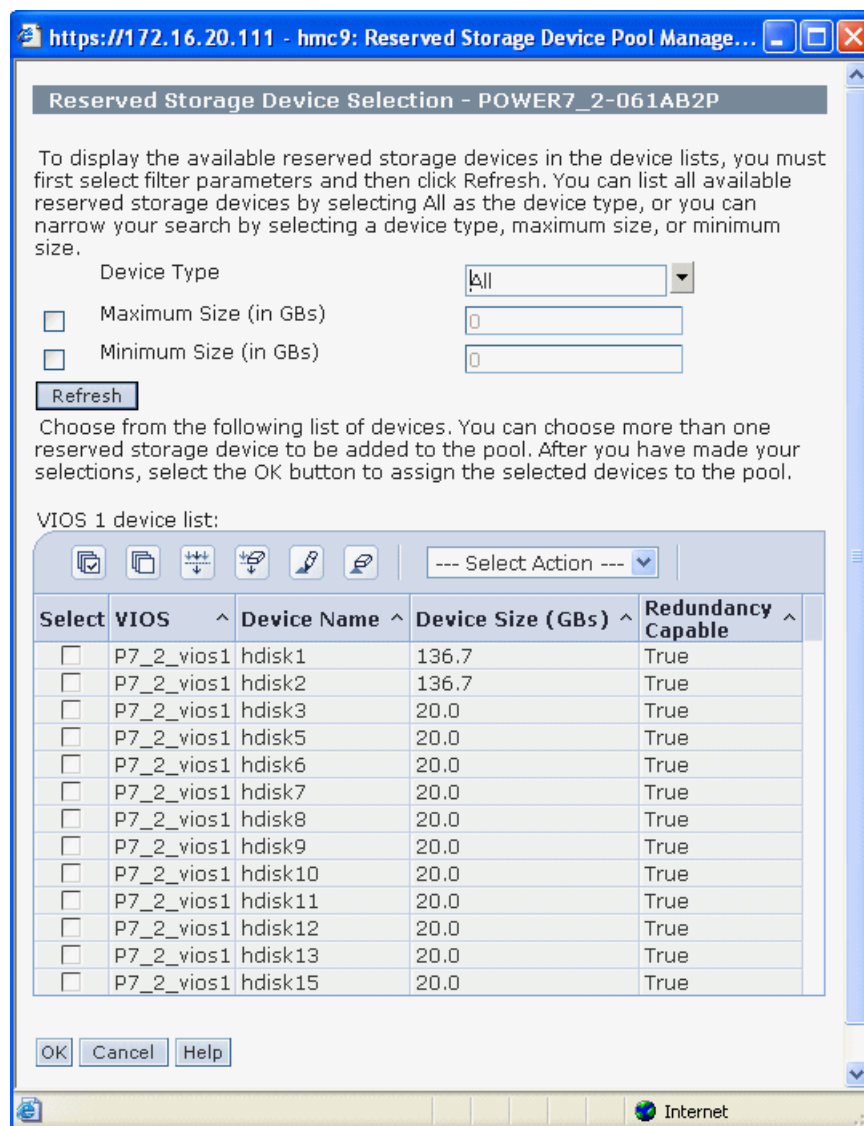

Figure 17-24 Reserved storage device selection
4. Select the devices to add to the reserved storage device pool, as shown in Figure 17-24, then click **OK**.